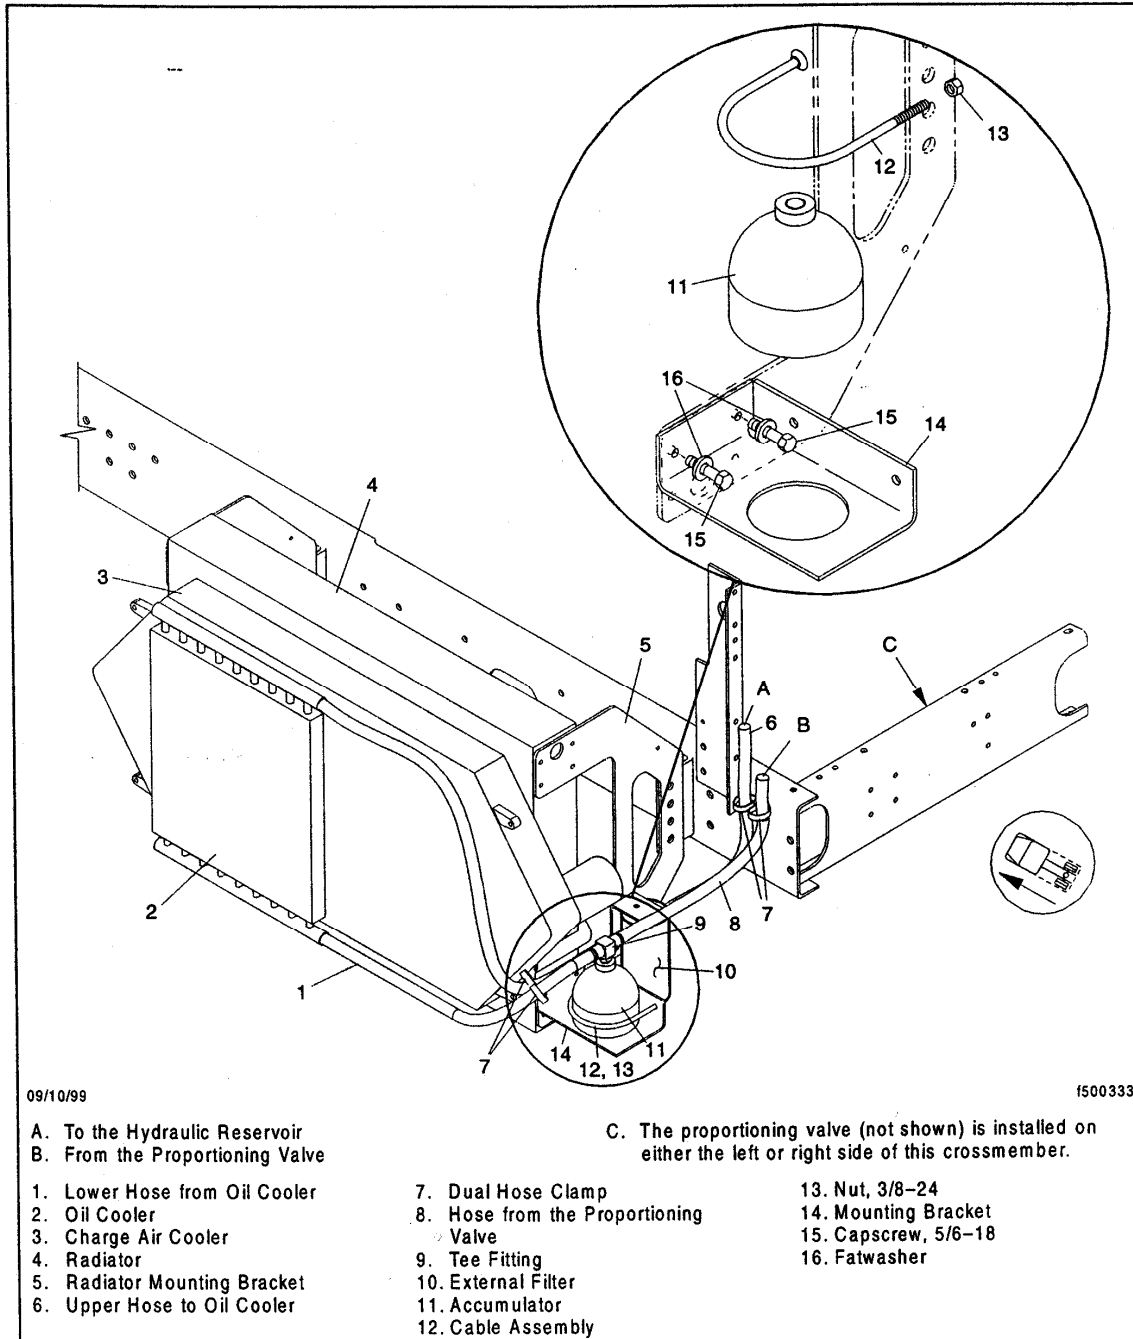

Fig. 1, Installation of Hydraulic System Accumulator
5. Disconnect and remove the hose connecting the proportioning valve to the lower end of the oil cooler. See Fig. 1.
9. Seat the accumulator onto the mounting bracket. See Fig. 1.
10. Using the cable assembly and the 3/8-24 nut, secure the accumulator to the bracket. See Fig. 1. Tighten the nut 30 lbf-ft (40 N·m).
13. Using two dual hose clamps, secure the hoses together. See Fig. 1.
If equipped with a 12-quart metal reservoir, check for an external filter near the oil cooler, in the hydraulic hose running from the top of the oil cooler to the reservoir. See Fig. 1.